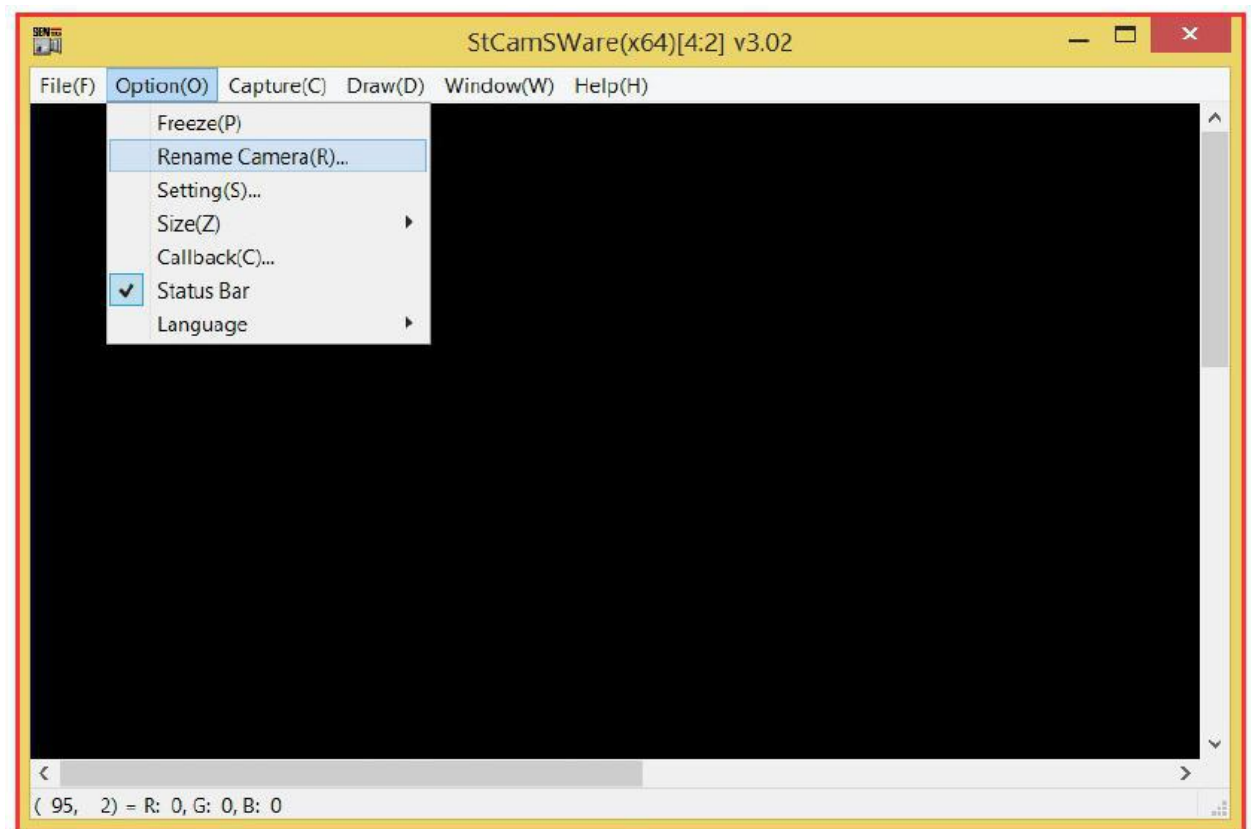

Figure 29 Optical Camera Live View
27. Go to "Option" and select Rename Camera (R) as below Figure 29.